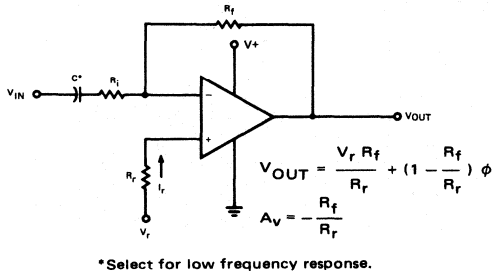

Fig. 4
**Reference Voltage Other Than V+ (Figure 4)**